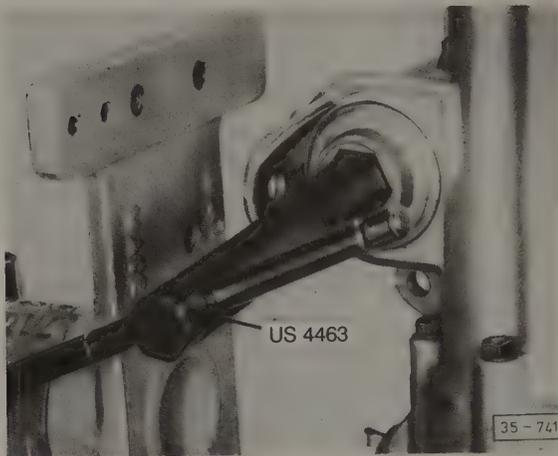

Fig. 6-7. Selector shaft cover being removed. Hex socket size is 27mm. Use short bolt (27mm head) and locknuts with wrench in place of special tool shown.
- To gain access to the selector shaft, remove the selector shaft cover as shown in Fig. 6-7. Use care to avoid losing the spring as the cover is removed. Remove the selector shaft by hand-pressing it out through the cover opening.